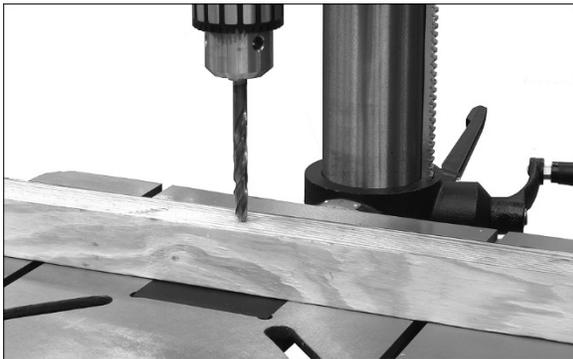

Figure 8-5: method #1
1. Loosen lock handle (H).
2. Use downfeed handles (D) to lower the bit until it just contacts the top surface of workpiece, as shown in Figure 8-5.